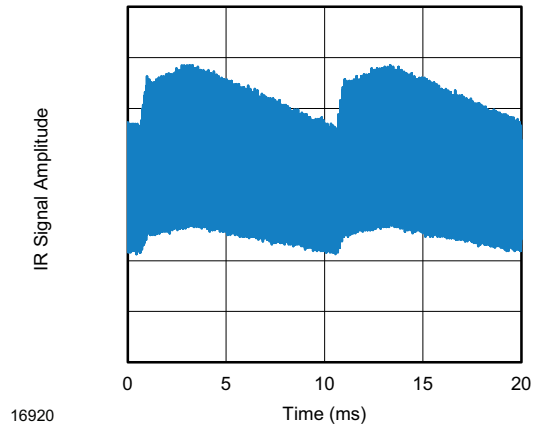

Fig. 13 - IR Disturbance from Fluorescent Lamp With Low Modulation
- Strongly or weakly modulated noise from fluorescent lamps with electronic ballasts (see Fig. 13 or Fig. 14)
| Suppression of interference from fluorescent lamps | Mild disturbance patterns are suppressed (example: signal pattern of Fig. 13) | Complex and critical disturbance patterns are suppressed (example: signal pattern of Fig. 14 or highly dimmed LCDs) |